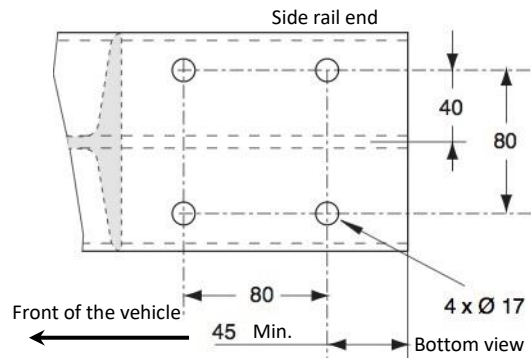

Fig.3a
All the holes must be used (Fig. 3a and 3b).
- Either drill holes in the side rails if not drilled and drill hole of the side plates (see Fig. 3a and 3b).